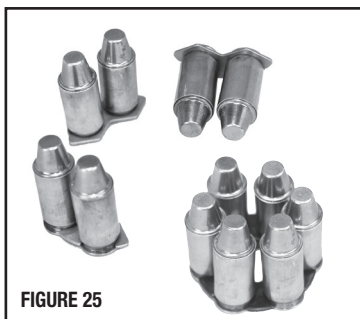

FIGURE 25
- If your Smith & Wesson revolver is chambered to accept a rimless cartridge such as 45 ACP or 38 Super, a “moon clip” must be used to ensure proper headspacing and extraction of the cartridge. In addition, some 38 Special and 357 Magnum revolvers are equipped with cylinders that have been recessed to allow the use of moon clips. Depending on the caliber and model of your Smith & Wesson revolver, moon clips that hold either 2, 3, 5, 6, 7, or 8 rounds may be supplied with your revolver (FIGURE 25).